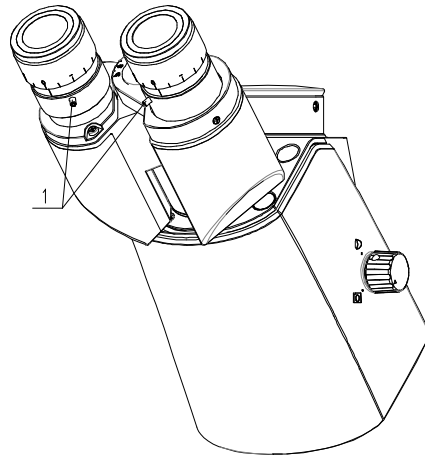

Fig.11 Locking Eyepiece
①(Fig.11). If want to change eyepiece ,must unscrew it at first.